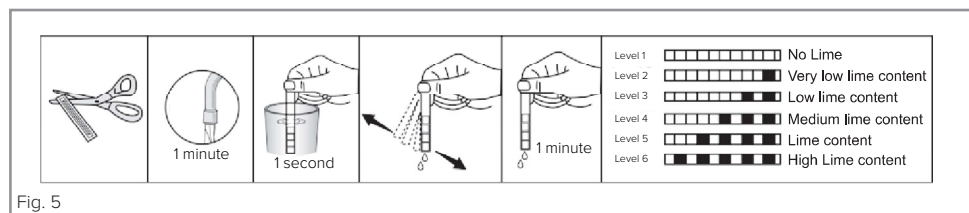

Fig. 5
1. Open the testing strip (Fig. 5).